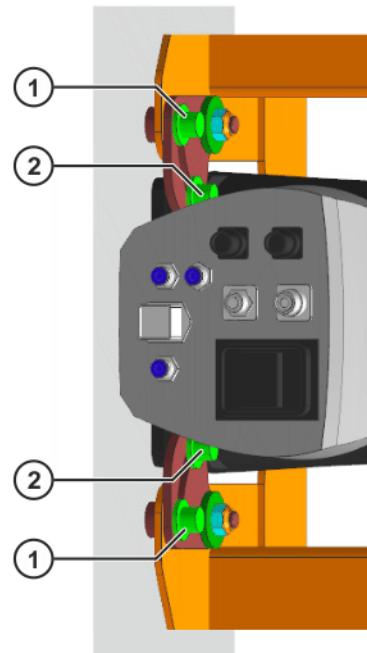

Fig. 8-6: Removing the top screws
13. Unscrew 2 M12x30 Allen screws (top Allen screws) and washers from the top of the base frame (**>>> Fig. 8-6**).